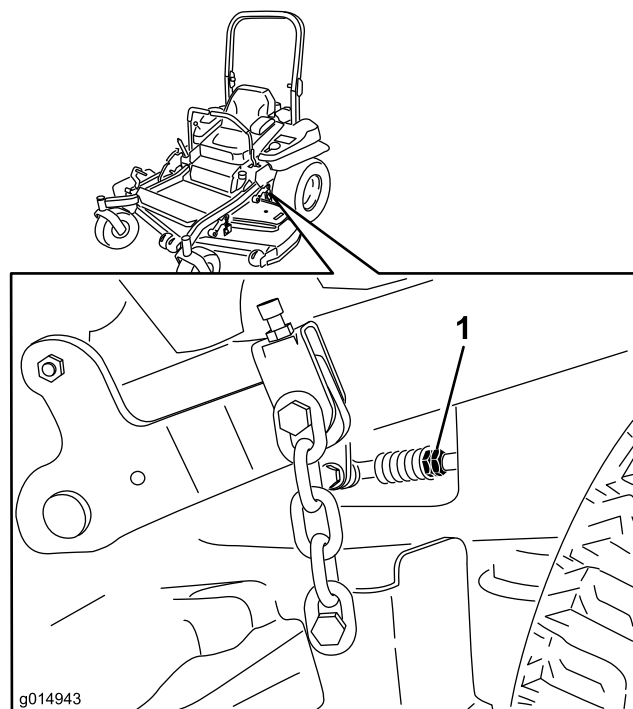

Figure 82
9. Adjust the pump control rod lengths by rotating the double nuts on the rod in the appropriate direction until the wheels slightly creep in reverse (Figure 82).